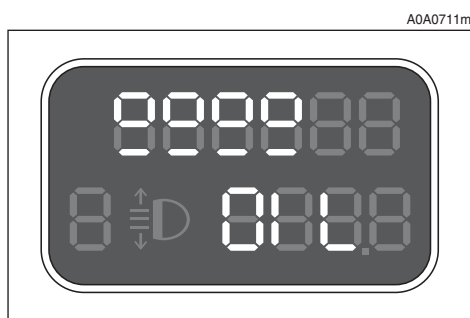

fig. 84
Then, the engine oil level is detected for some seconds, during which the display shows six bars. At the end of this operation, the display will show the oil quantity (**fig. 84**) and then the information concerning the partial and total kilometres travelled.
**Fig. 84** refers to the correct engine oil display. As the oil level gradually falls, the full bars go off.